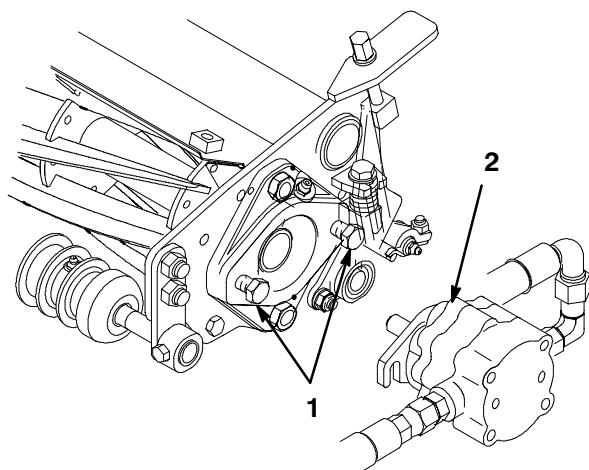

Figure 13
9. Assemble the mounting capscrews for the reel drive motor to each cutting unit. Leave approximately 1/2 inch of threads exposed on each mounting capscrew (Fig. 13).
11. Coat the spline shaft of the motor with clean grease and install the motor by rotating the motor clockwise so the motor flanges clear the studs. Rotate the motor counterclockwise until the flanges are encircling the studs and tighten the mounting capscrews (Fig. 13).